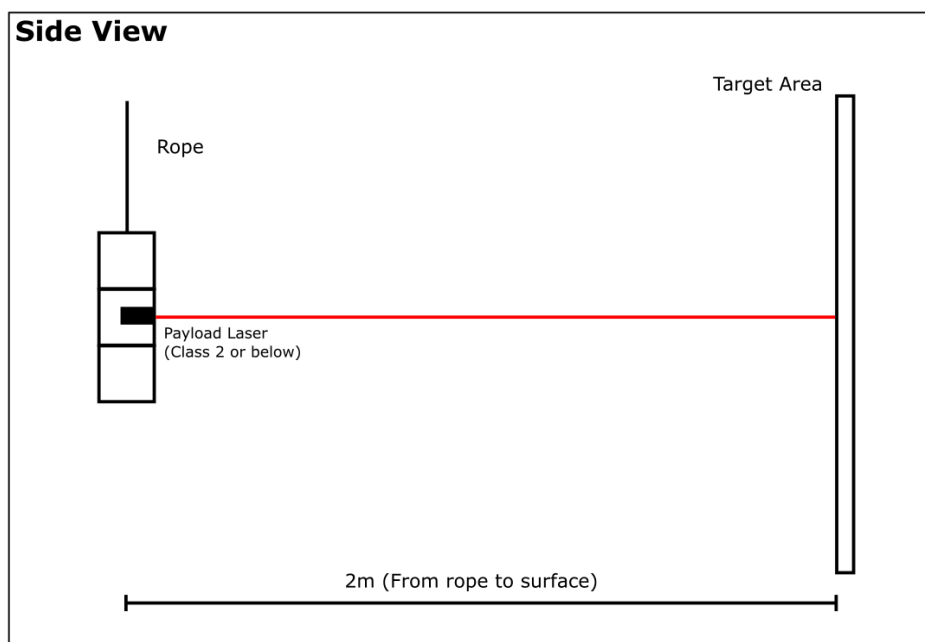

**Figure SOW-2: View of the General Mystery Room Set up**
- Up to 3 students can be present in the set up of the CubeSat in the Mystery Room. The teams will have 10 minutes to set up their CubeSats. During this time, the Mystery Room Coordinator (MRC) will detail safety measurements in place and assist with the interfacing of the CubeSat with the mounting structure to the position shown in **Figure SOW-2**. The MRC will also check for the CubeSats kill switch. If the MRC cannot mount the satellite, or is not satisfied with the reliability of the kill switch, testing will not continue and the team will score 0 points in this phase of the competition.